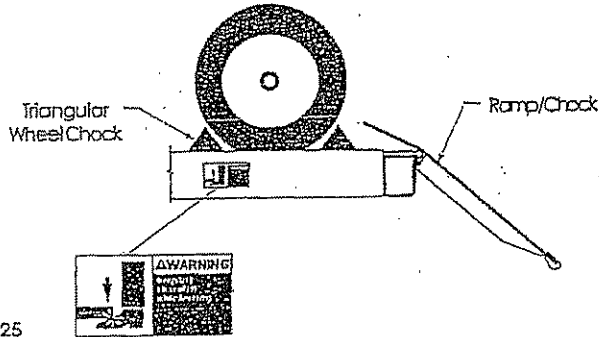

Fig. 25
2. Drive vehicle onto lift and center it on runways. At all times, be sure rear wheels are forward of the ramp/chocks and the ramp/chocks will clear tires when the lift is raised, Fig. 25. Driver and passengers must exit before raising.
3. Place triangular wheel chocks on each side of one rear tire, Fig. 25.
5. Fully lower lift, remove the triangular wheel chocks and check to be sure area is clear before removing vehicle from lift, Fig. 25.